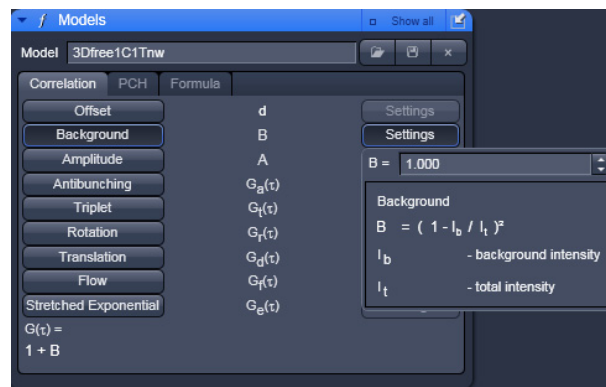

Fig. 60 Background Settings panel
- You can set an offset by setting a value in the **Background** selection box (Fig. 60). Either type in a value or use the arrows.